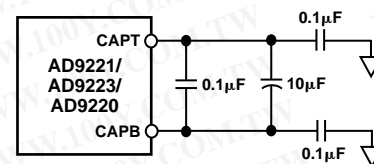

Figure 36. Recommended CAPT/CAPB Decoupling Network
The actual reference voltages used by the internal circuitry of the AD9221/AD9223/AD9220 appear on the CAPT and CAPB pins. For proper operation when using the internal or an external reference, it is necessary to add a capacitor network to decouple these pins. Figure 36 shows the recommended decoupling network. This capacitive network performs the following three functions: (1) along with the reference amplifier, A2, it provides a low source impedance over a large frequency range to drive the A/D internal circuitry, (2) it provides the necessary compensation for A2, and (3) it bandlimits the noise contribution from the reference. The turn-on time of the reference voltage appearing between CAPT and CAPB is approximately 15 ms and should be evaluated in any power-down mode of operation.